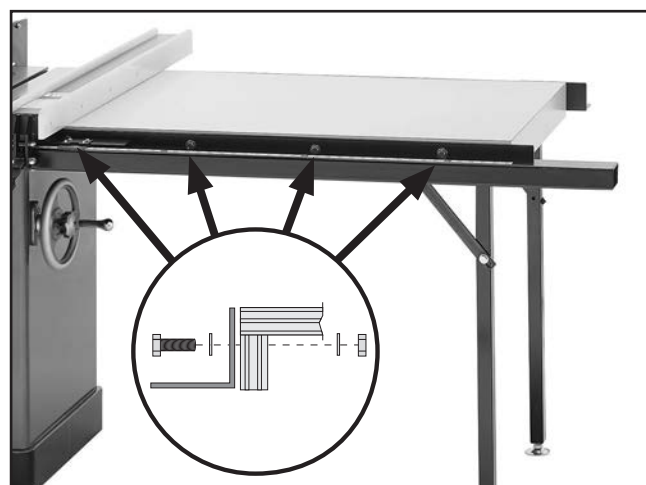

Figure 27. Extension table installed.
1. With help of another person to hold extension table, use (8) $\frac{3}{8}$ "-16 x $1\frac{3}{4}$ " hex bolts, (16) $\frac{3}{8}$ " flat washers, and (8) $\frac{3}{8}$ "-16 hex nuts to secure extension table to rails, as shown in **Figure 27**.